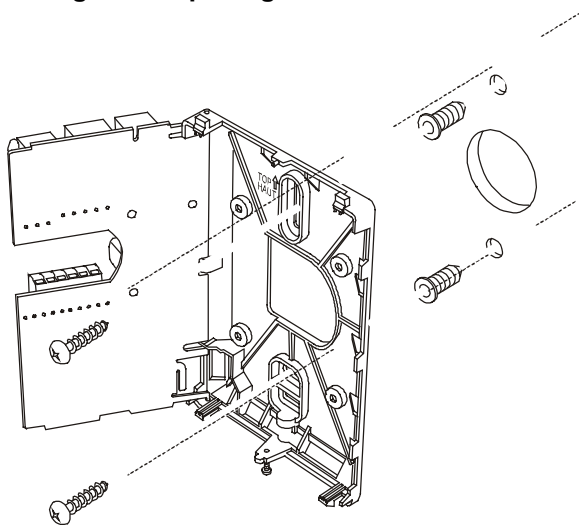

Figure 3: Mounting the Thermostat Base
5. Use the supplied anchors and screws for mounting on drywall or plaster. Drill two 3/16 in. (4.7 mm) holes at the marked locations and tap nylon anchors flush to wall surface (see Figure 3).